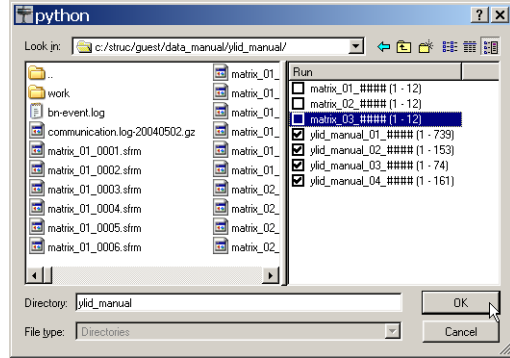

Figure 8.23 - File Selection window with matrix runs deselected
2. To open the file selection window, left-click on the folder beside the file name. Choose the sets of images that you want to use for the calculation by clicking on the check boxes (see Figure 8.23).